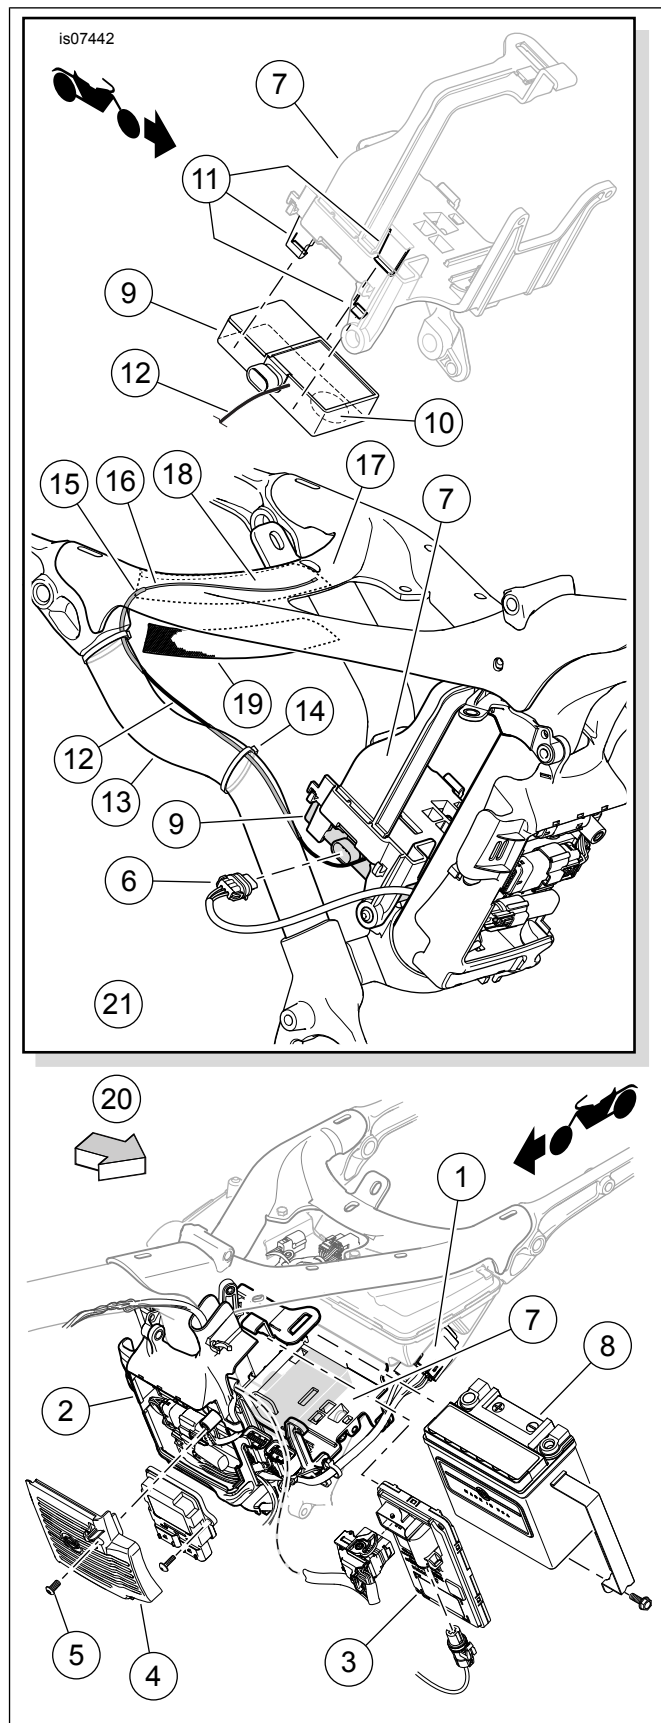

Figure 32. Siren Installation (2014-Later Sportster Models)
3. See Figure 32. Pull the fuse box (1) away from the oil tank. Remove the Body Control Module (BCM) (3) from the electrical caddy (2).
4. Remove the screw (5) retaining the ECM cover (4). Pull the ECM cover forward and out the left side of the vehicle.
5. Remove the security siren connector [142B] (6) from the retainer on the back of the electrical caddy. Route the connector and wiring under the battery tray (7) to the right side of the vehicle.
6. Remove the battery (8) from the vehicle per the service manual.
7. Insert security siren connector [142B] into the security siren (9) receptacle until the connector latches securely.
8. Snap the siren into the hooks (11) beneath the battery tray so the sounder disc (10) is toward the left front, facing downward.